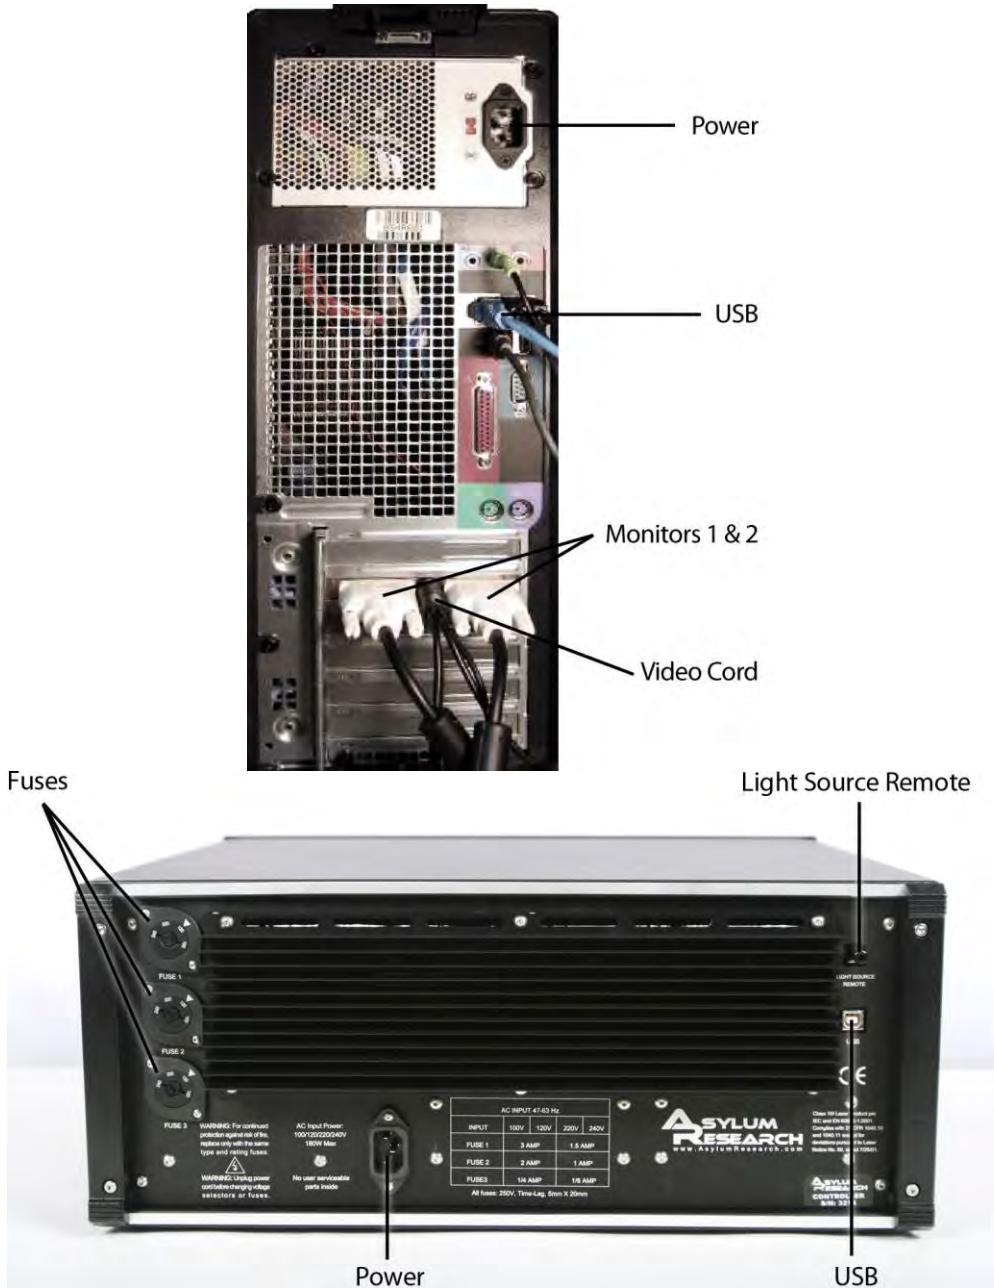

Figure 4.12 A Power Connections – Back of the Computer B Power Connections – Back of the Controller
- 1.** Connect the following system power cords (See Figure 4.12):